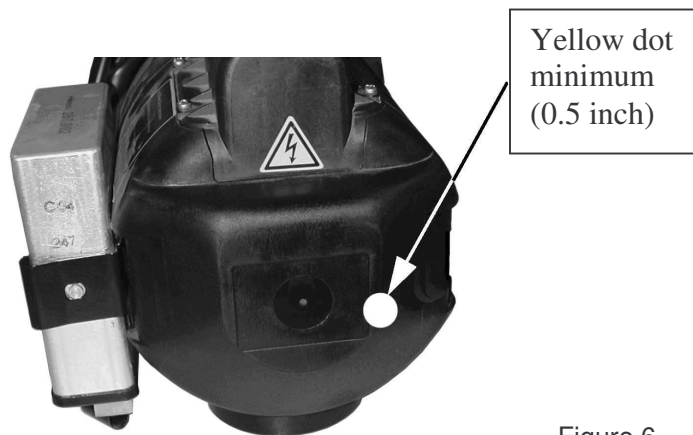

Figure 6.
1. **Before** starting work, check to see if the heater is already marked. This means the burner tube has been replaced already. Corrected heaters are marked with a yellow dot on the control unit or on the front side of the burner head cover (black plastic) or in both places (see figures 6 & 7).
10. Place a water insoluble (permanent ink or paint) yellow dot, minimum Ø10mm (0.5 in.), on the control unit and on the front side of the burner head (see figures 6 & 7) to identify corrected heaters.